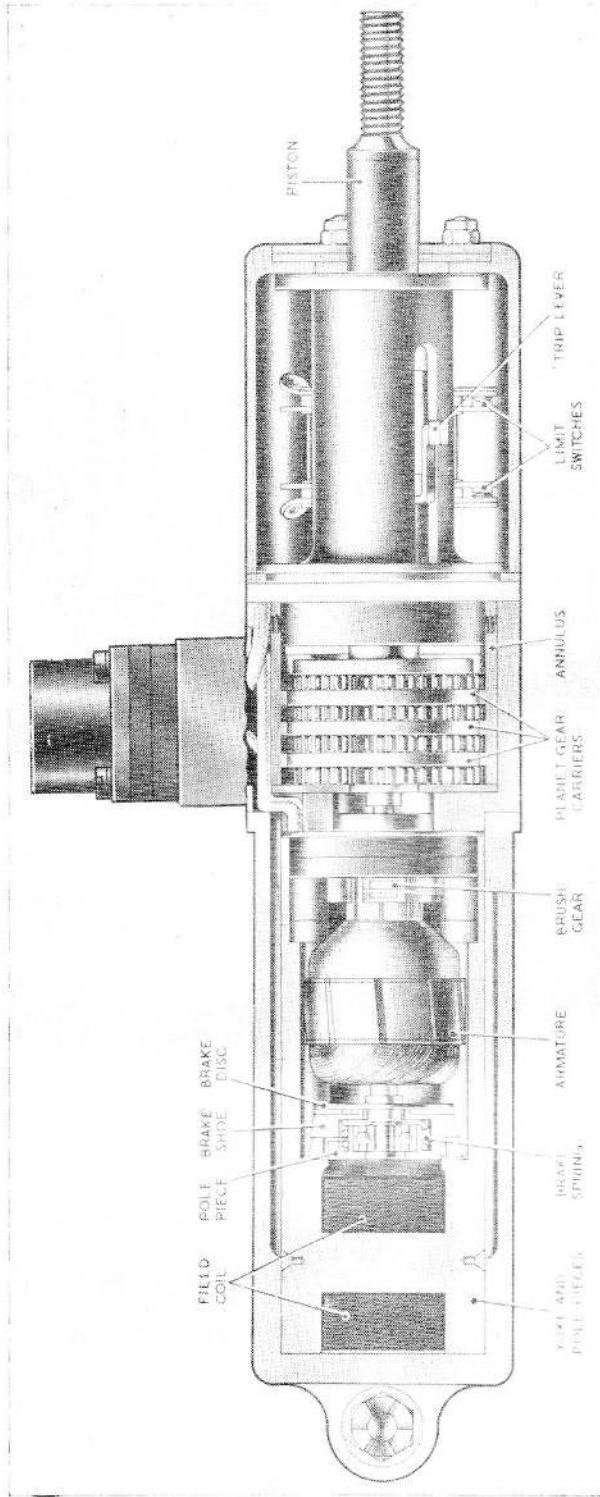

Fig. 1. Sectional view of actuator, Type EJ50, Mk. 35 and 35A
2. These actuators (which are identical) follow the general design described in the Appendix to A.P.4343, Vol. 1, Sect. 17, Chap. 2, dealing with Western actuators. The rating of the actuator is 1 minute at nominal load, with a current consumption of 1.25 amp. The general internal construction can be seen in the sectional drawing given in fig. 1, where the piston is shown partly extended.